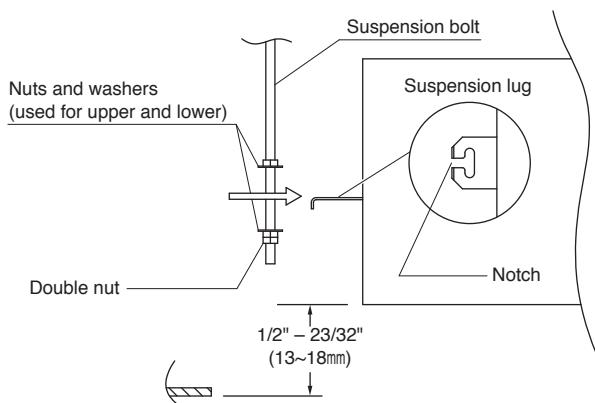

Fig. 6-4
- (3) The length of suspension bolts must be appropriate for a distance between the bottom of the bolt and the bottom of the unit of more than $19/32"$ (15 mm) as shown in the diagram. (Fig. 6-4)
- (4) Thread the 3 hexagonal nuts (locally purchased) and 2 supplied washers onto each of the 4 suspension bolts as shown in the diagram. Use 1 nut and 1 washer for the upper side, and 2 nuts and 1 washer for the lower side, so that the unit will not fall off the suspension lug. (Fig. 6-4)
- (5) Adjust so that the distance between the unit and the ceiling bottom is $1/2"$ (13 mm) to $23/32"$ (18 mm). Tighten the nuts on the upper side and lower side of the suspension lug. (Fig. 6-4)